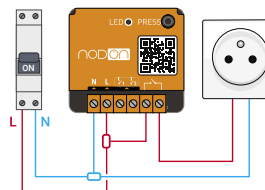

Figure 2
- 3 Wire the Multifunction Relay Switch, following the diagram figure 2.